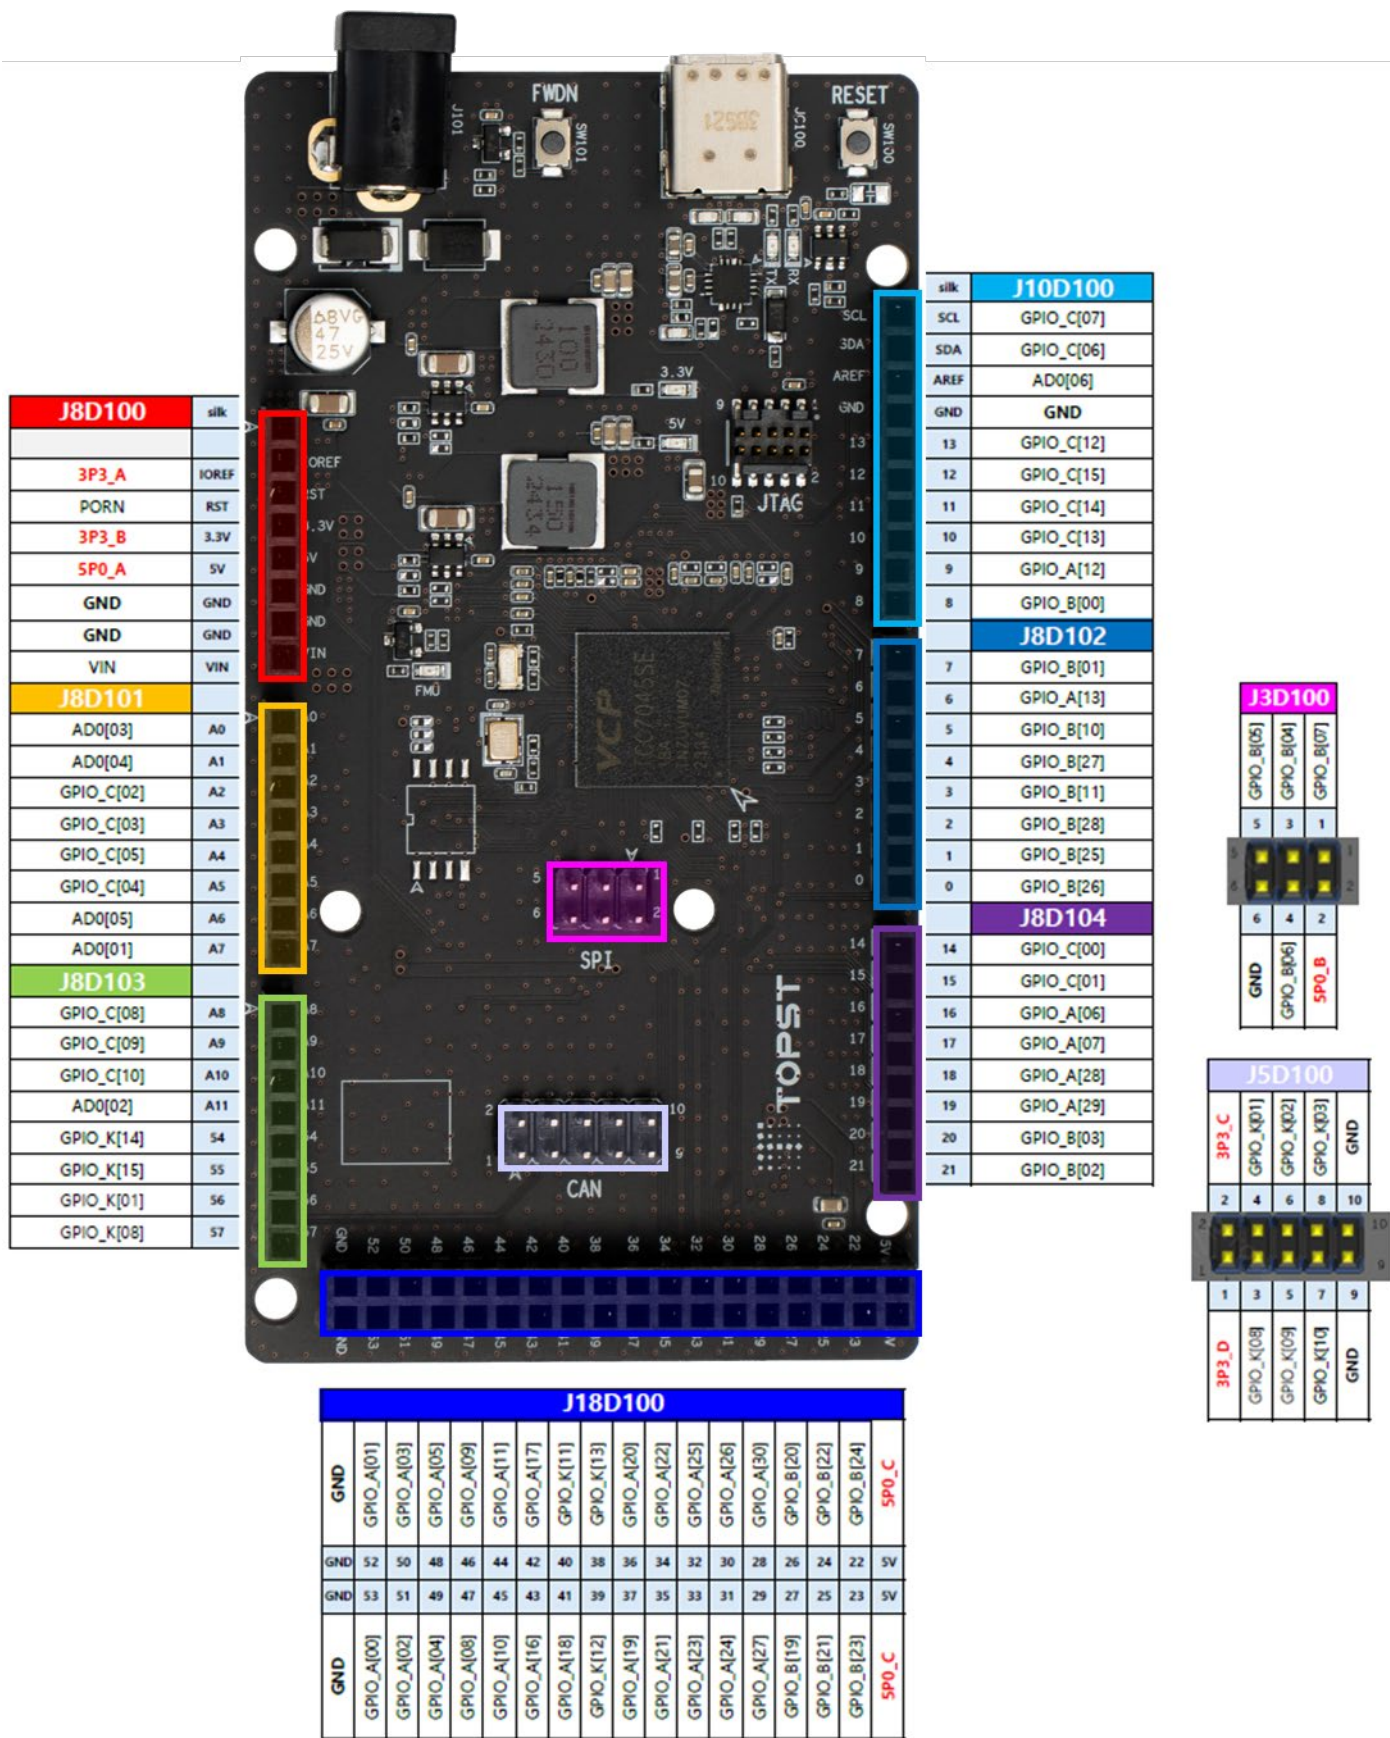

Figure 4.9 Total Pin Assignment of Pin Headers on VCP-G Board
Figure 4.9 shows the total pin assignment of ten pin headers on the VCP-G board.
- Figure 4.9